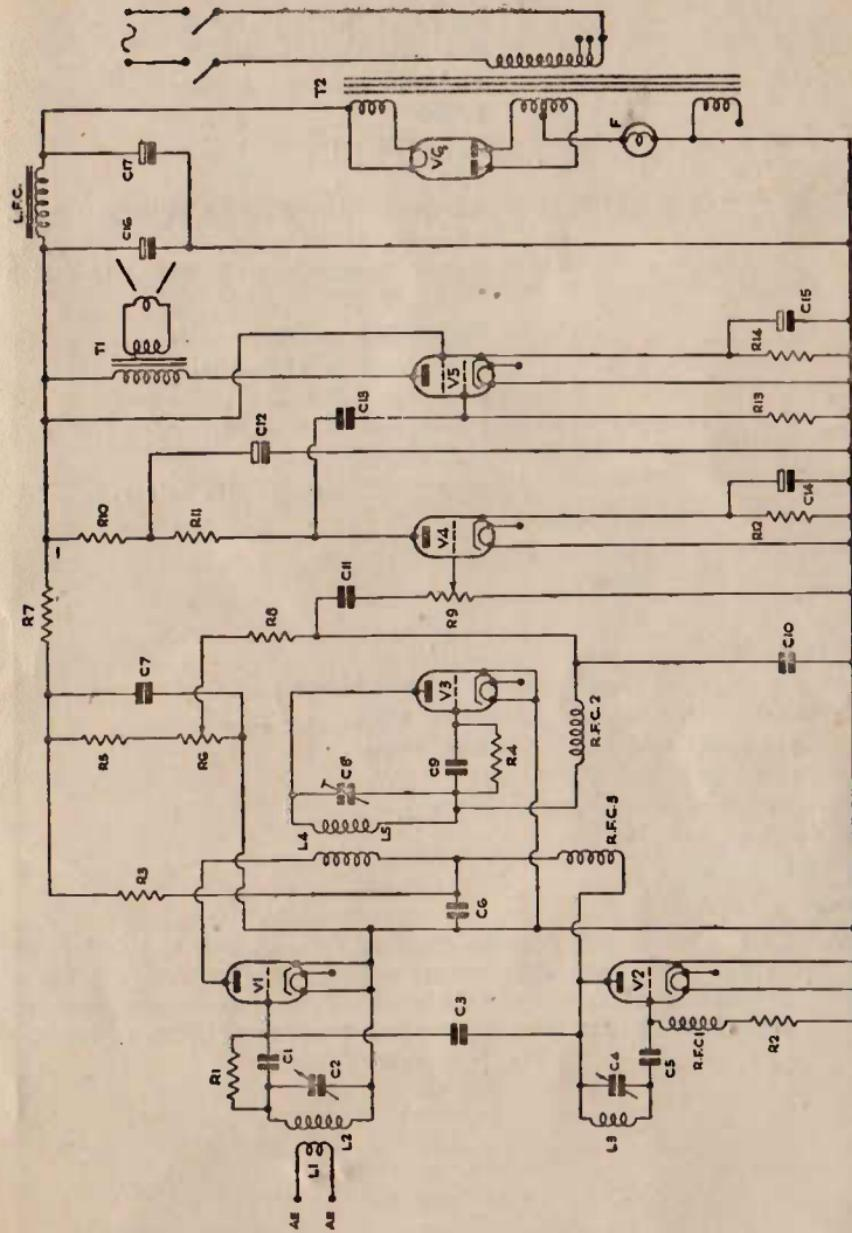

FIG. 31. V.H.F. Super Regenerative Superhet Receiver.
V.H.F. SUPER REGENERATIVE SUPERHET RECEIVER—Fig. 31.